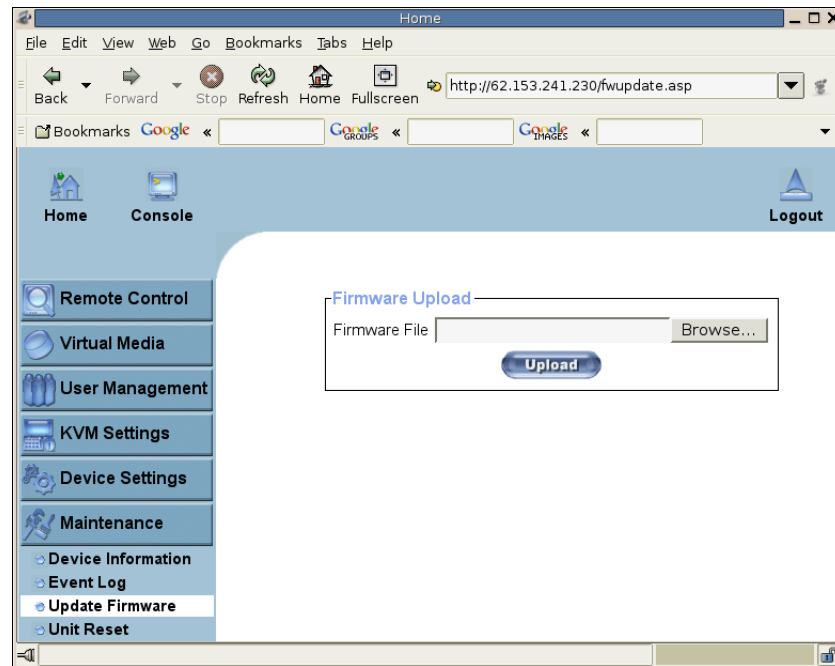

Figure 6-38. Update Firmware
- Firstly, the new firmware file is uploaded onto the eRIC II . In order to do that you need to select the file on your local system using the button “Browse” of the Upload Firmware panel (see Figure 6-38). Then, click “Upload” to transfer the previously selected file from your local file system onto the eRIC II . Once the firmware file has been uploaded, it is checked whether it is a valid firmware file and whether there